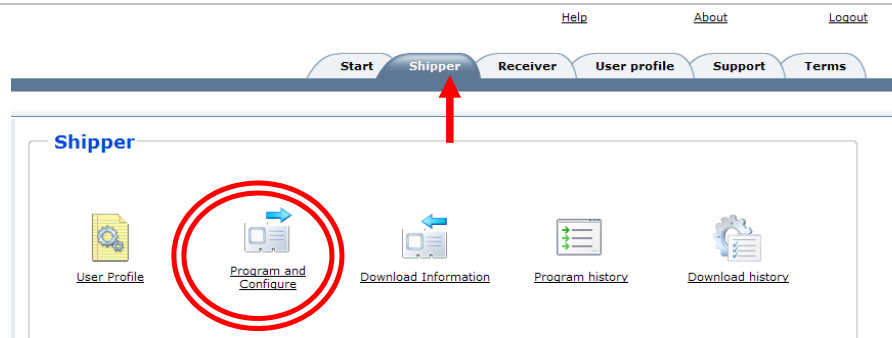

Figure 11: Program & Configure
- Select **Search** for EWT to find the Data Logger connected to your COM port. See Figure 11 below.